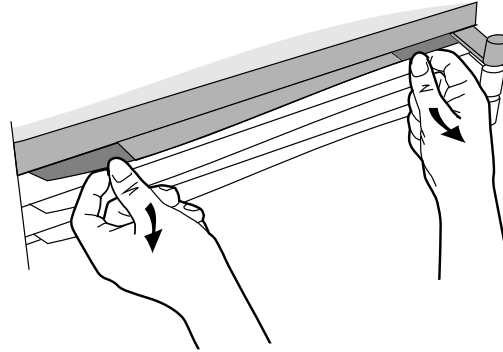
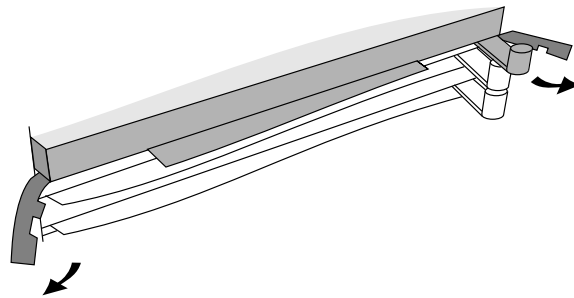

Figure 2. Unlocking Routing Engine
Figure 3. Disengaging Routing Engine
5. Press down slightly on the insides of both locks on the front bezel of the routing engine in the slot numbered 1 (the topmost card slot), as shown in figure 2. Then swing them outward until the bezel disengages from the chassis, as shown in figure 3.